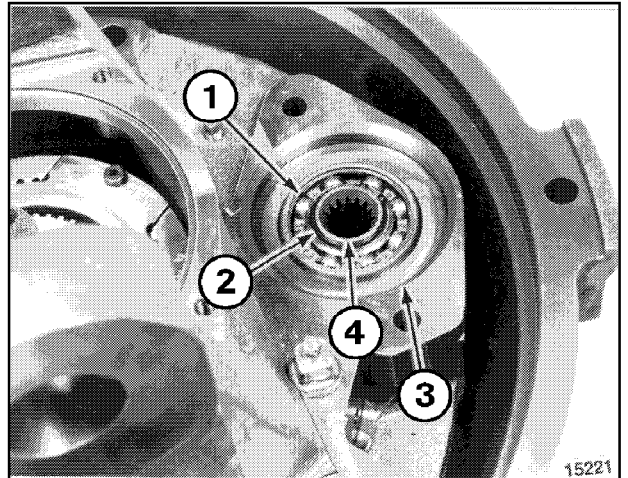

Figure 74
- L. Press bearing (1, Figure 74) on pinion (2) and into gear housing (3) at same time.
- M. Install retaining ring (4).